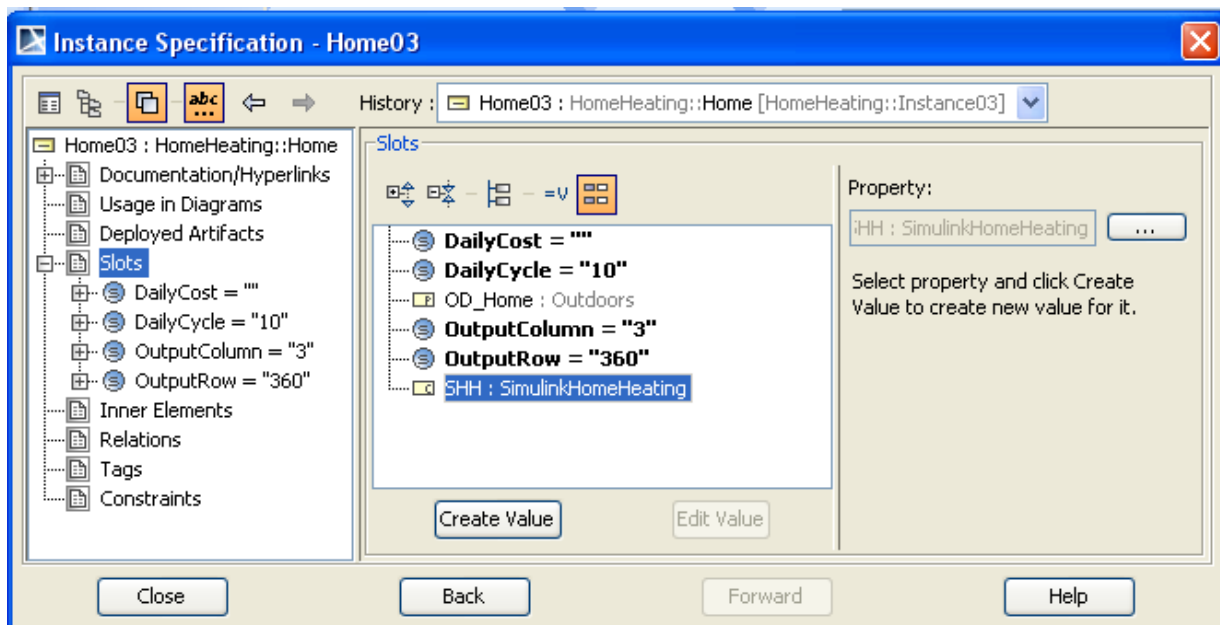

Figure 7.6 Instance Specification for Home03
- i. Open the Instance Specification for **Home03** (Figure 7.6)